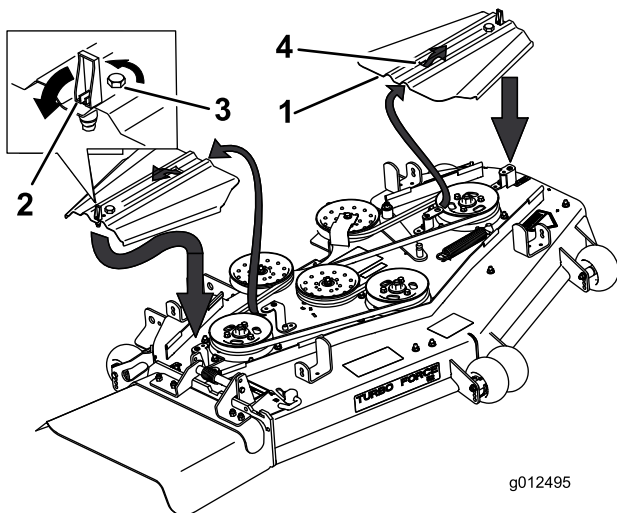

Figure 70
5. Remove the belt covers and the bolts attached to them (Figure 70).
11. Install the belt covers by sliding the cover into the tab, tighten the bolts, and close the latches (Figure 70).